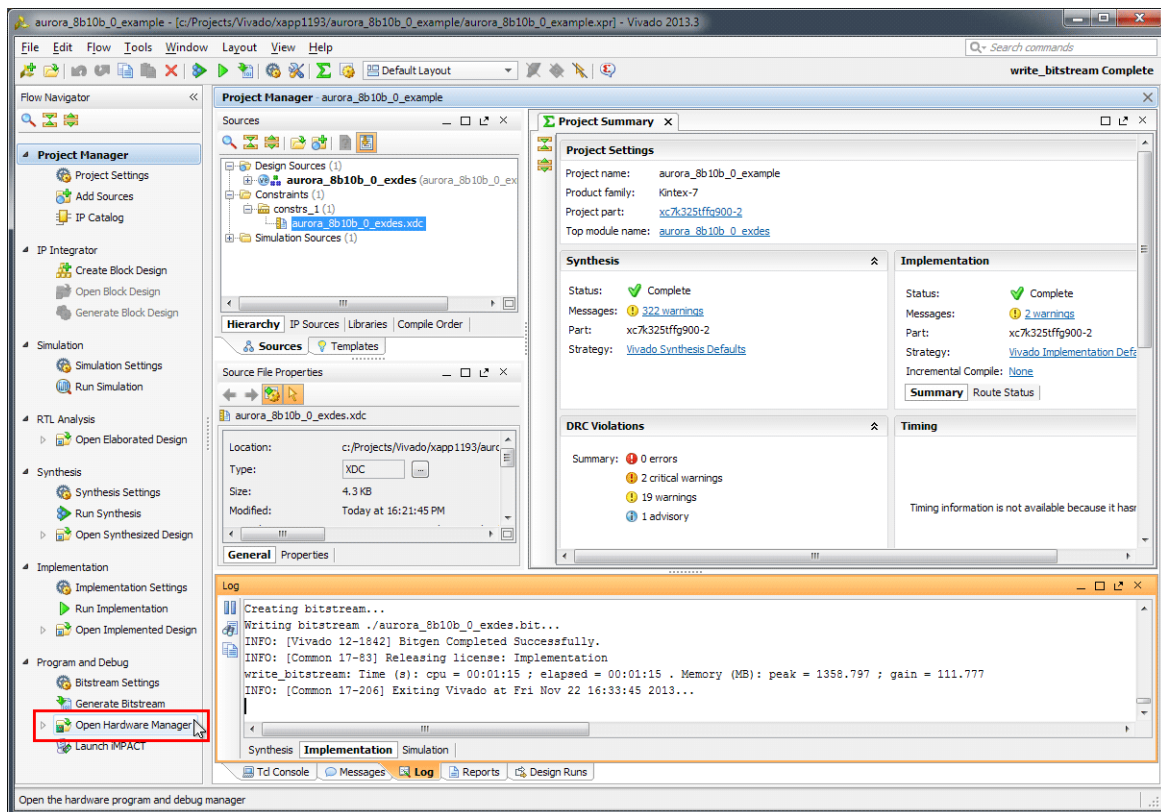

Figure 18: Open Hardware Manager
1. Under Program and Debug in the Project Manager section of the Vivado IDE, click **Open Hardware Manager** (Figure 18).